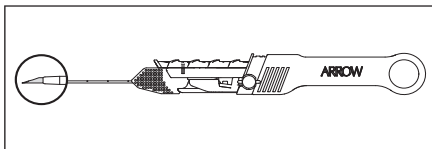

Figure 4
- Return catheter to its original position making sure juncture hub and catheter release tab fit tightly together and the distal tip of catheter is retracted past needle bevel (refer to Figure 4).
- Advance the guidewire slider back to its original position making sure the "0" mark on the slider is visible. This will withdraw the guidewire into the device and return the needle support to its original position (refer to Figure 4).
**⚠ Caution:** Prior to insertion, distal tip of catheter must be fully retracted past needle bevel or catheter tip damage may occur (refer to Figure 4).